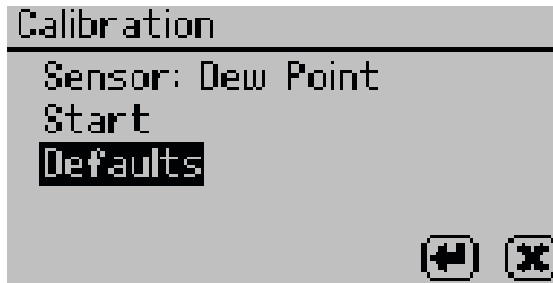

Figure 58 Calibration screen with Defaults selected
3. Select **Defaults** to access the Restore Factory Defaults routine (Figure 58).